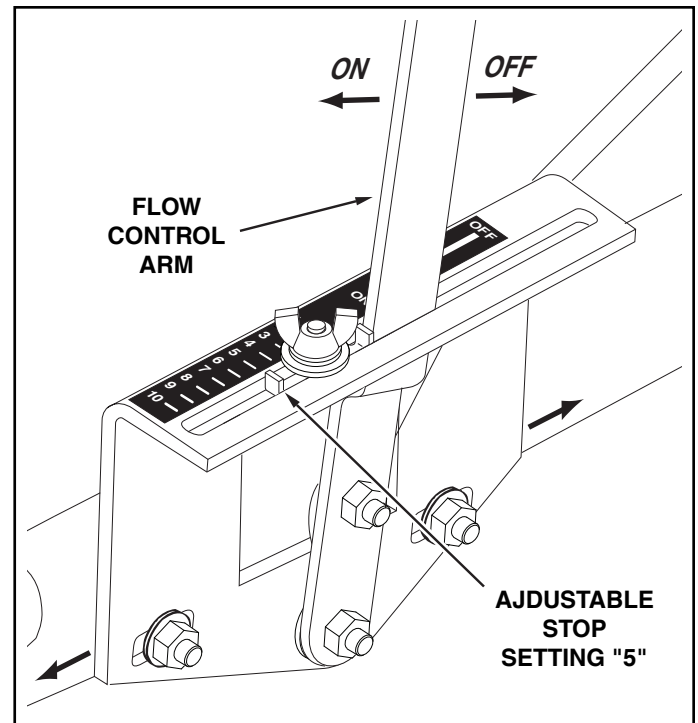

FIGURE 13
21. Position the flow control mounting bracket (figure 13).
(Refer to figure 13 on page 7.)